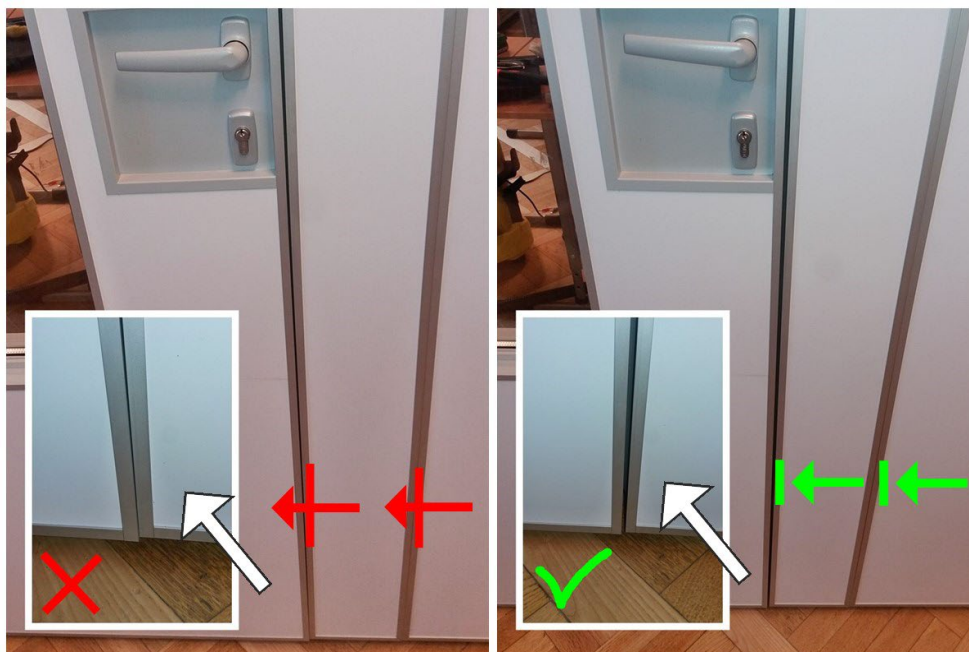

Fig.18. Risk that may occur when expanding the telescopic panel (2) causing deformation of the door panel (4)
Check if the sliding part (11) of the telescopic panel (2) **has not reduced the gap between the door frame (4) and the door itself (5)** compared to the gap visible between the hinges (Fig.18)
The expanding force may move the lower parts of the door panel frame (4) to the side, blocking the door (5) and making it IMPOSSIBLE to open (red color in Fig.18)
The situation is different if the door panel is **several panels away** from the telescopic panel (2). Spacing the panels between them should prevent this phenomenon of gap reduction. However, **it is recommended to check** if the door panel is working properly **(green in Fig.18)**